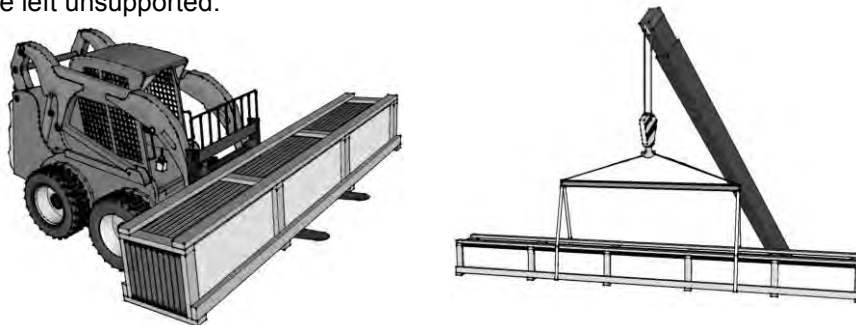

Figure 2: Lift truck with panel bundle. Crane with spreader bar and panel bundle.
- Lift trucks with forks minimum 5 feet apart can be used for lifting bundles up to 25 feet long (*Figure 2*). Reasonable care should be taken while unloading to prevent damage from shocks or sudden movements.